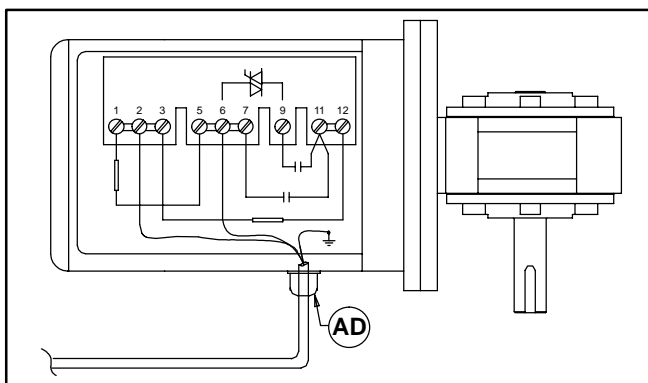

Figure 18
- b. Record wire colors on terminals 2, 6 and ground (\perp) (Figure 18). Loosen terminals 2, 6 and ground and remove wires.
- c. Loosen cord grip (AD of Figure 18) and remove cord.